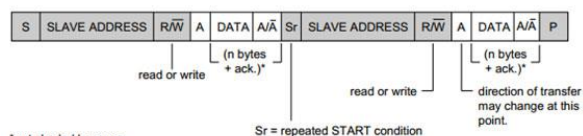

Figure 7: Combined Format
Combined format (see Figure 7). During a change of direction within a transfer, the START condition and the slave address are both repeated, but with the R/W bit reversed. If a master-receiver sends a repeated START condition, it sends a not-acknowledge (A) just before the repeated START condition.